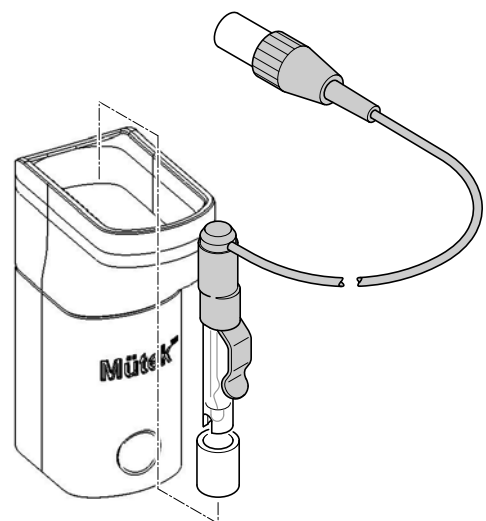

Fig. 5-4 Insert pH electrode
For manual operation of the Mütek™ PCD-06 Particle Charge Detector, use a measuring pipette to transfer titrant drop by drop into the measuring cell (see "Fig. 5-4", page 34). The endpoint, that is the point of zero charge, is reached when the streaming potential is at 0 mV.
- If applicable, install pH electrode in the measuring cell (see Fig. 5-4 "Insert pH electrode", page 34).
- With pH option, insert the pH electrode into the measuring cell and press the pH "START" button (see Fig. 5-4) before starting the potential measurement.